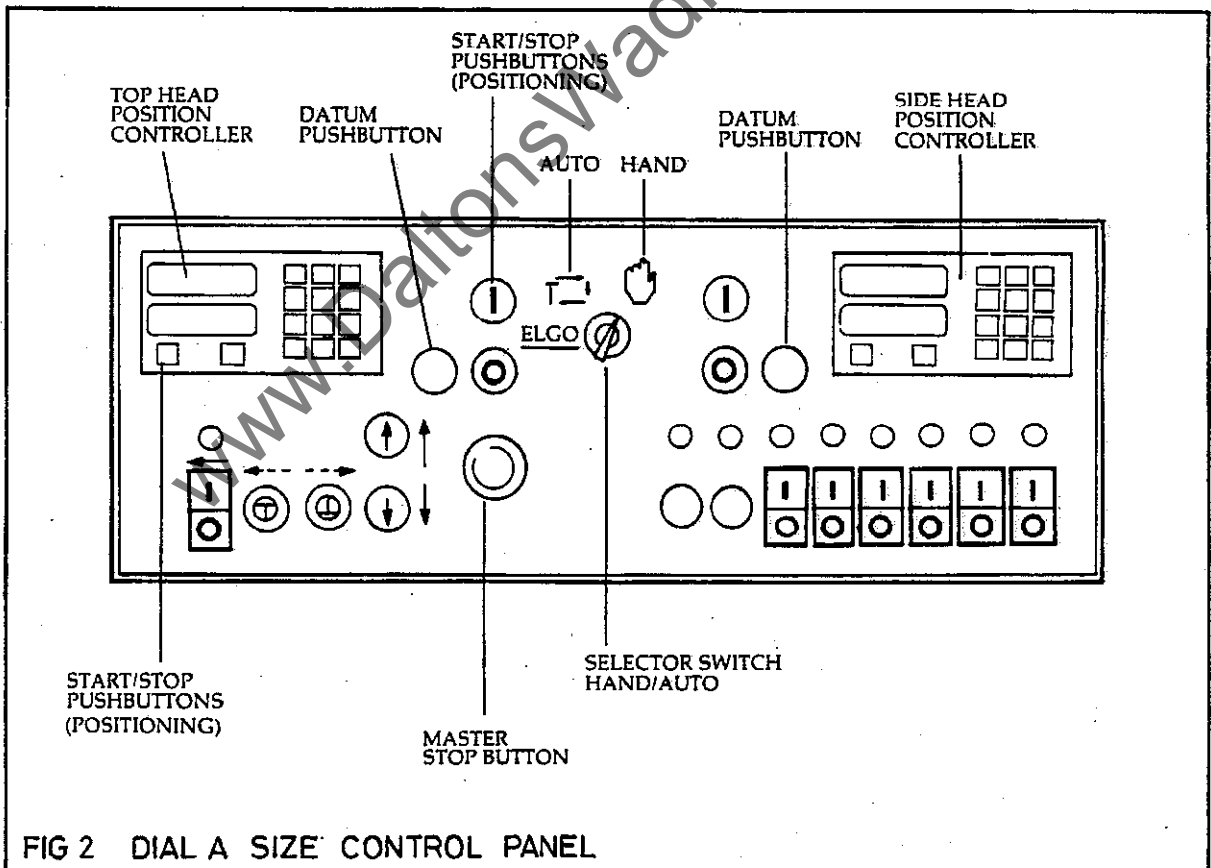

FIG 2 DIAL A SIZE CONTROL PANEL
- 1) Switch to 'Hand' operation (Fig 2).
- 1) Switch to 'Elgo' operation (Fig 2).